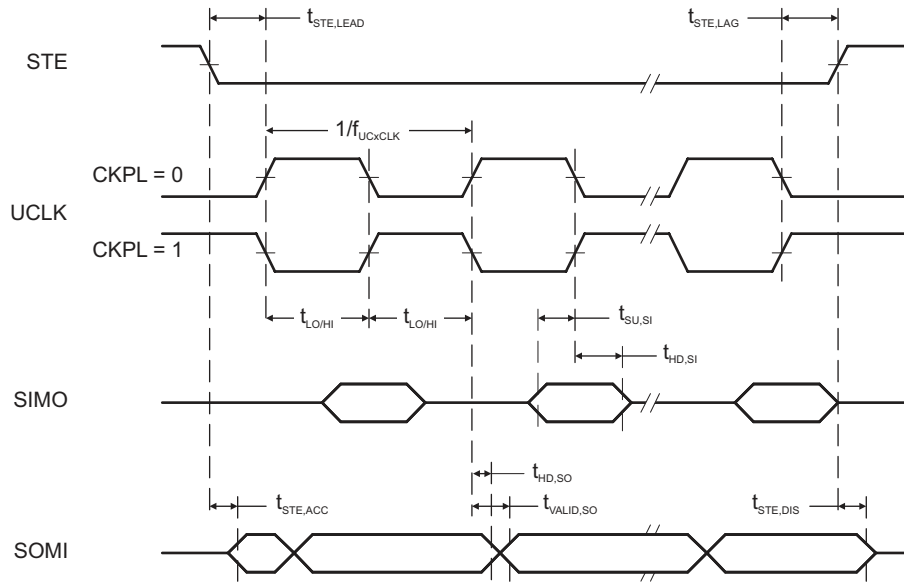
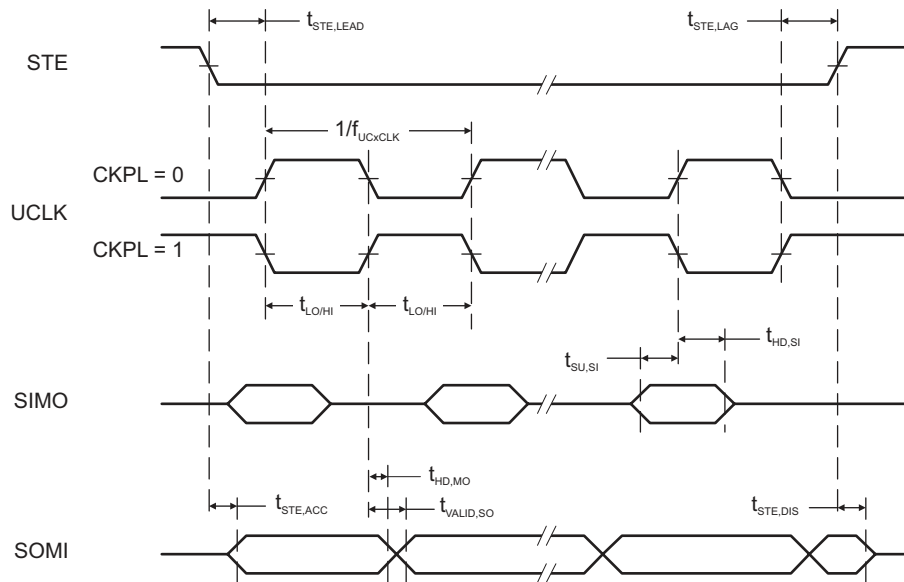

Figure 7-14. SPI Slave Mode, CKPH = 0
Figure 7-15. SPI Slave Mode, CKPH = 1
- (2) Specifies the time to drive the next valid data to the SOMI output after the output changing UCLK clock edge. See the timing diagrams in Figure 7-14 and Figure 7-15.
- (3) Specifies how long data on the SOMI output is valid after the output changing UCLK clock edge. See the timing diagrams in Figure 7-14 and Figure 7-15.